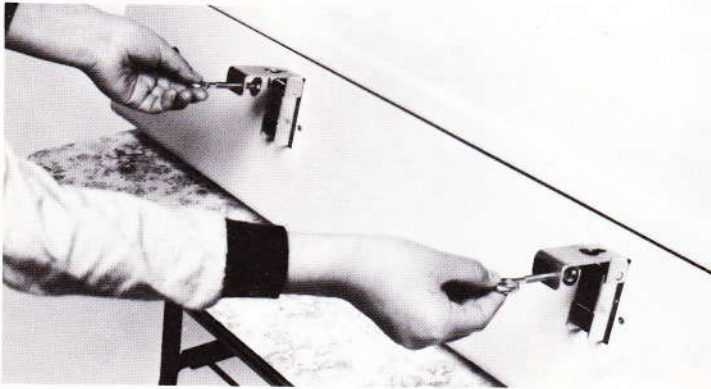

Fig. 2
- Pull the 2 clamps out and holding them in this position (fig. 2) pull the machine towards you until the clamps can just hang over the edge of the table. Release the clamps in this position.